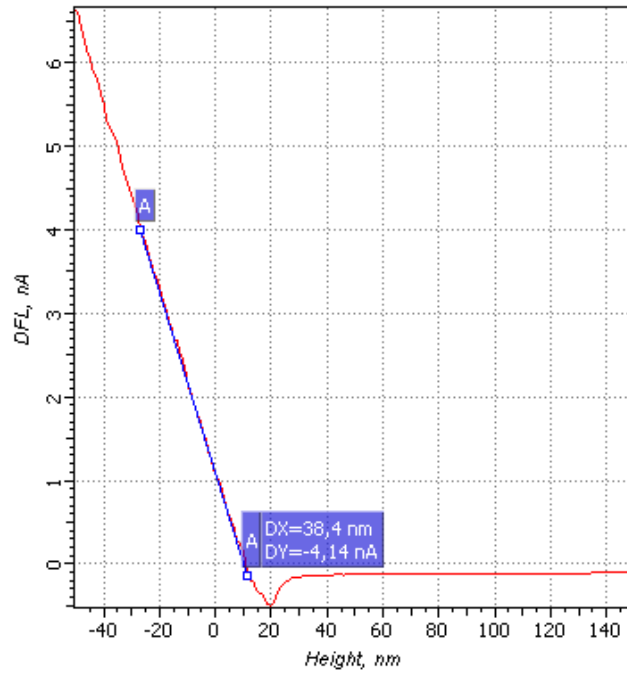

Fig. 12-9. Approach curve
7. Launch the acquisition procedure by clicking the  button. Spectroscopy acquisition will provide an approach curve (Fig. 12-9).
First, place the pair marker on the acquired approach curve (see Fig. 12-9). The first marker of the pair should be moved to the **Set Point** level while the second one is positioned at the **DFL** level immediately before the cantilever detaches the sample surface. ΔZ corresponds to **DX**.
Value of the $\Delta Height$ parameter is given by **DX** measured with the approach curve as shown in Fig. 12-9.